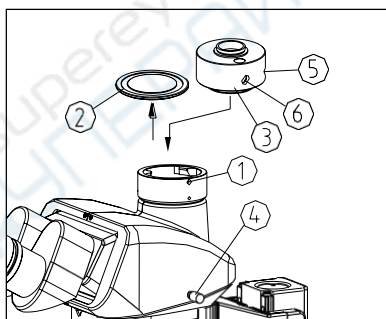

Fig. 23
- 1) Loosen the lock screw① of trinocular head, and take out the dust-cover② (See Fig. 23).
- 2) Take down the two dust-covers of the CTV adapter ③. Insert the CTV adapter into the trinocular head as shown in the figure and screw down the lock screw①.
- 3) Connect the CCD or camera to the adapter③.
- 4) For binocular observation, after the image is clear, pull the light path selecting pole④ to the outermost, to observe the image. If the image is not clear, loosen the lock screw⑤, and adjust the focusing screw⑥ until the image is clear, then tighten the lock screw⑤.